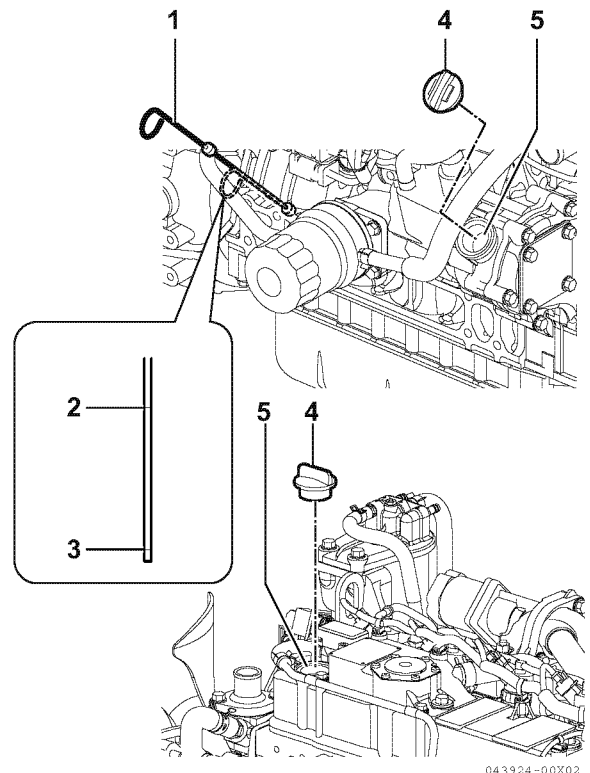

Figure 15
4. Add new engine lubricating oil to the engine through either of the oil filler ports (5, **Figure 15**) as specified in *Adding Engine Lubricating Oil* on page 54.
8. Add engine oil to engine lubricating oil filler port (5, **Figure 15**) as needed until the level is between the upper (2, **Figure 15**) and lower lines (3, **Figure 15**) shown on the dipstick (1, **Figure 15**).
9. Reinstall the oil filler cap (4, **Figure 15**). If any engine lubricating oil is spilled, wipe it away with a clean cloth.